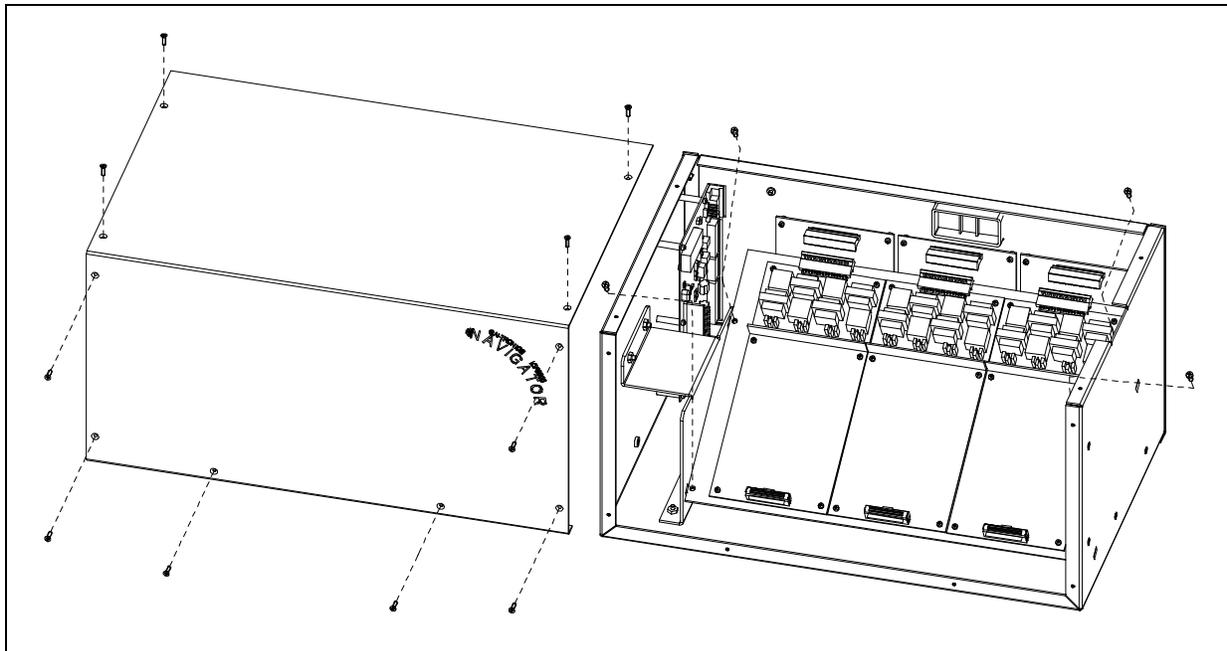

Figure 4.
- Remove the 10 screws securing the side cover panel and gently lift the cover off. See Figure 4.
- Remove the 4 screws attaching the mounting plate to the base. This allows you to remove the mounting plate giving you access to the main control PCBA. See Figure 4.